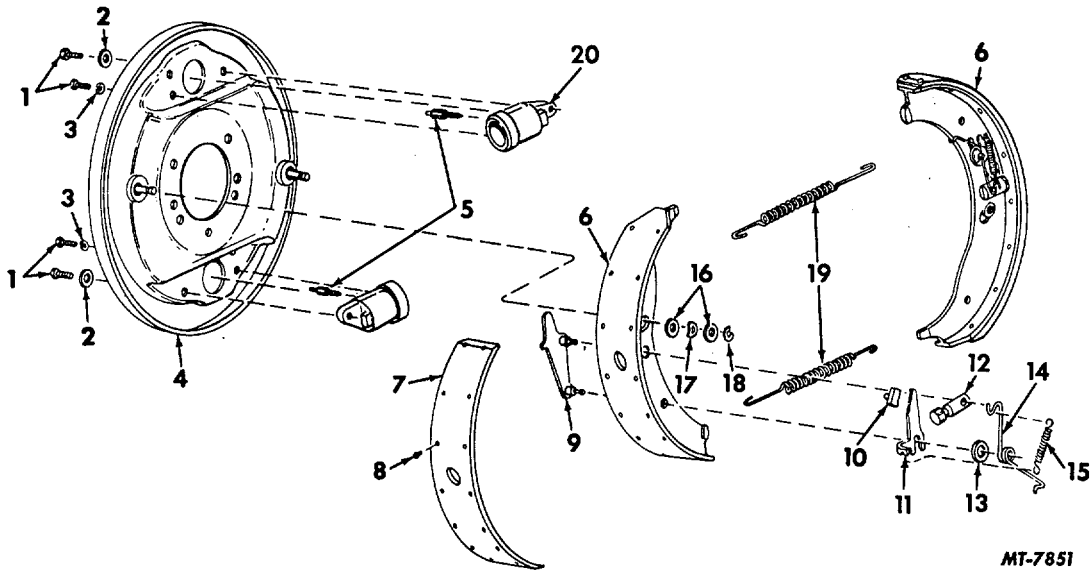

Fig. 3 Exploded view of Brake Group
LEGEND FOR FIG. 3
5. Remove brake shoe guide "C" washer, two shoe guide washers and wave washer from each shoe. Refer to Fig. 3 (items 16, 17 and 18).